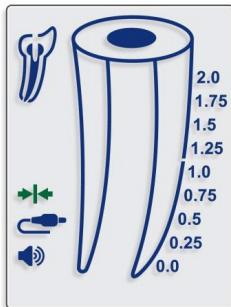

Fig. 3
- 7.3.2 "Connection" icon ↔ should appear on the display, indicating proper connection (Fig. 3).